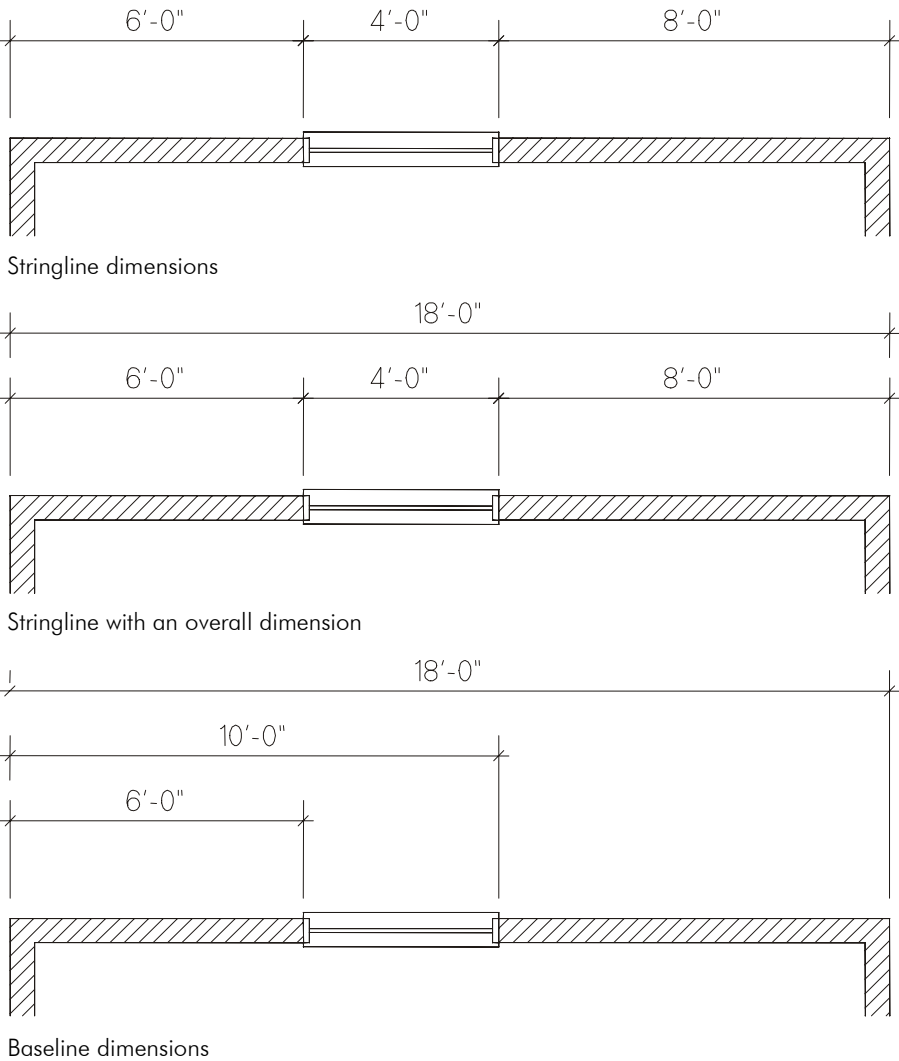

Figure 14.2: Examples of stringline, stringline with overall, and baseline dimensions
- See Figure 14.2 for examples of these options.